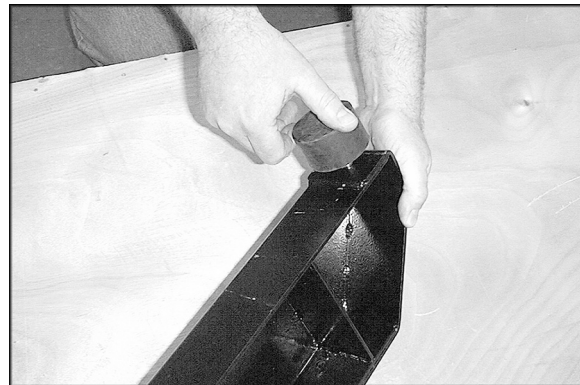

Figure 2
- 4. Install two rubber foot pads onto each cast iron mounting foot. See Figure 2. Screw the pads all the way in so they are all level with one another.